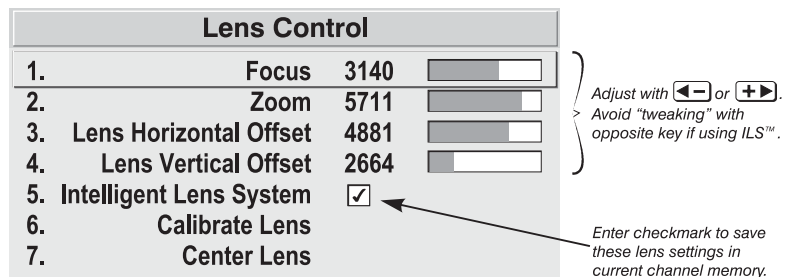

Figure 2.22. Lens Settings and the *ILS™*
- Try to release the **[◀-]** or **[+▶]** key *before* reaching a desired lens setting, then continue as necessary with small incremental adjustments *in the same direction*. If you “overshoot” slightly, do not reverse and “tweak” into place unless you have overshoot *beyond* the backlash zone (which can vary from 10 to 600 increments, depending on the function). Otherwise, the *ILS™* function will not recognize the final “tweaked” value when you return to this channel, and lens performance will appear inaccurate. In general, use small “incremental” fine-tuning only if the direction of lens movement has not changed during an adjustment. See Figure 2.22.